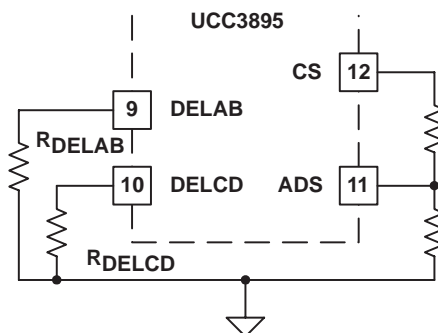

Figure 4. Programming Adaptive Delay Set
The adaptive delay set feature (ADS) allows the user to vary the delay times between switch commands within each of the converter's two legs. The delay-time modulation is implemented by connecting ADS (pin 11) to CS, GND, or a resistive divider from CS through ADS to GND to set V_{ADS} as shown in Figure 4. From equation (6) for V_{DEL} , if ADS is tied to GND then V_{DEL} rises in direct proportion to V_{CS} , causing a decrease in t_{DELAY} as the load increases. In this condition, the maximum value of V_{DEL} is 2 V.